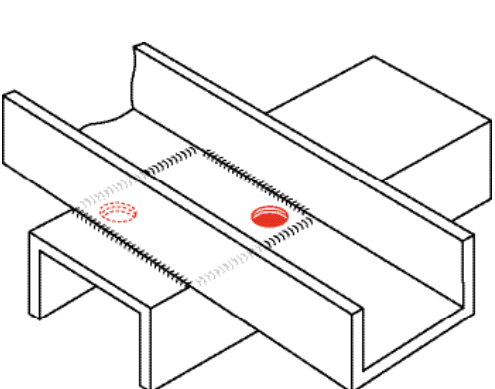

Fig. 7
**Larger overlapping surfaces.** If contacting surfaces are unavoidable, where the overlapping area is greater than 100cm2, two holes in diagonally opposite corners of the overlapping area are required. Ideally, holes should be drilled through both pieces in contact to assist the free flow of liquid (fig. 7). Hole diameter must be a minimum of 12mm or at least the same size as the steel thickness, whichever is greater. Hole requirement can be avoided by stitch welding the overlapping areas. The holes required are to ensure the safety of our employees and help us deliver the best possible quality galvanized coating. Where the overlapping area is greater than 1000cm2 advice should be taken from the galvanizer.